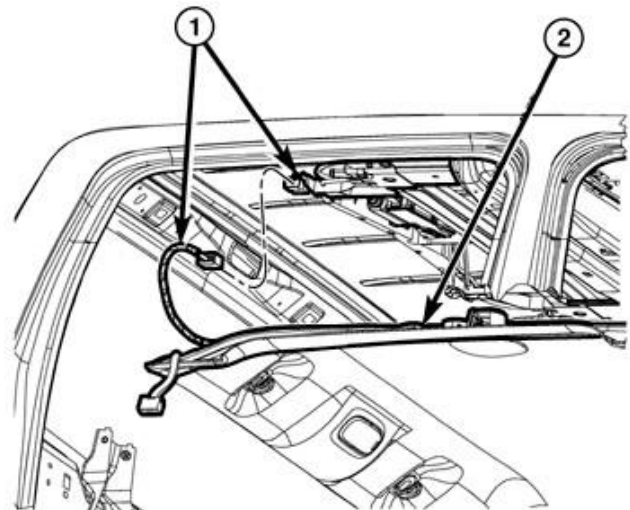

Figure 36 – Headliner Harness
- 27. Carefully lower the headliner (2) allowing it to rest on the seat backs and instrument panel (Figure 36).
CAUTION: Disconnect any wiring harness electrical connectors (1) as necessary to allow enough wiring harness slack while lowering headliner. It will not be necessary to remove the headliner from the vehicle (Figure 36).
40. Raise the headliner into proper vehicle position and connect any electrical connectors previously disconnected from the headliner (Figure 36).